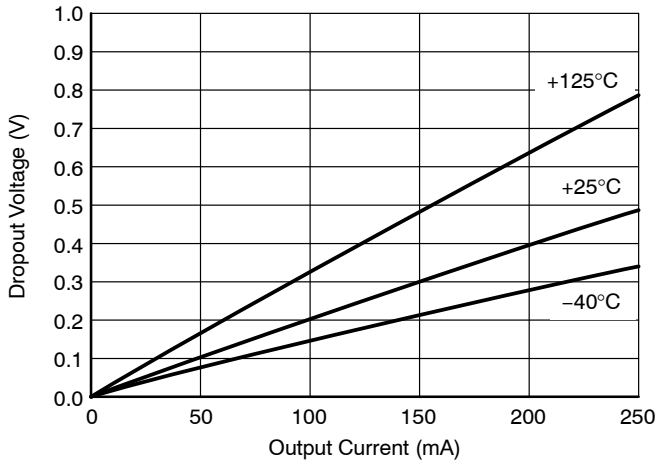

Figure 12. Dropout Voltage vs Output Current
3. Measured when the output voltage has dropped 100 mV from the nominal value. (see Figure 12)